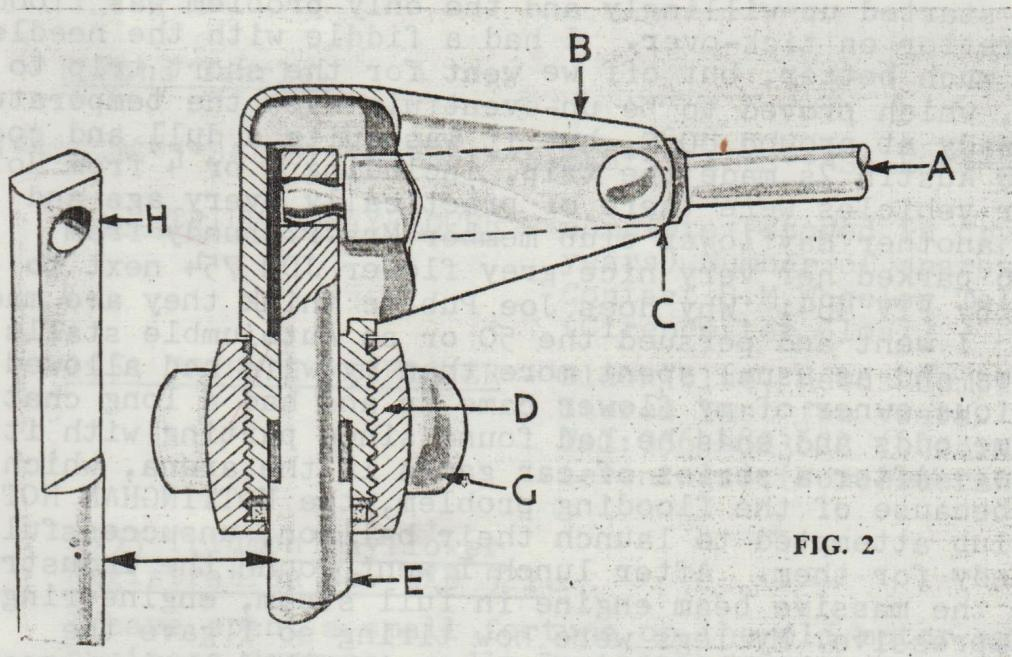

FIG. 3
(1) Remove gear lever *A* by withdrawing fulcrum pin *C* (after removing circlip, see Fig. 3). (2) Rotate cap and inner sleeve *B* through 180 degrees to the opposite side of the steering column. (3) Re-insert gear lever *A* and fulcrum pin *C*. Unfortunately the change is not quite so simple as it sounds, as in most cases, especially with the later type lever, it will be necessary to remove the steering wheel in order to give room for the cap to be lifted off its flats and rotated to the opposite side.